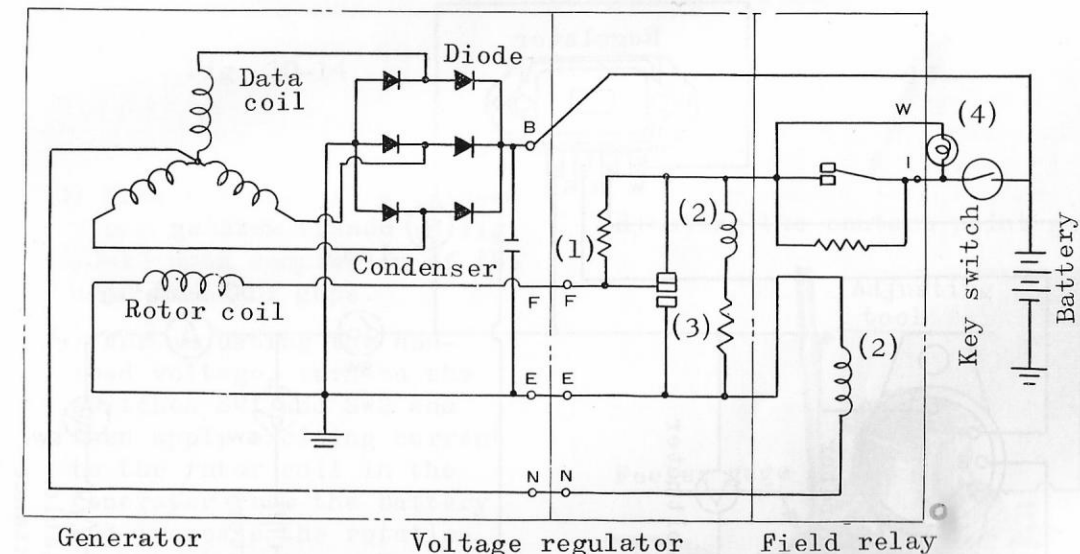
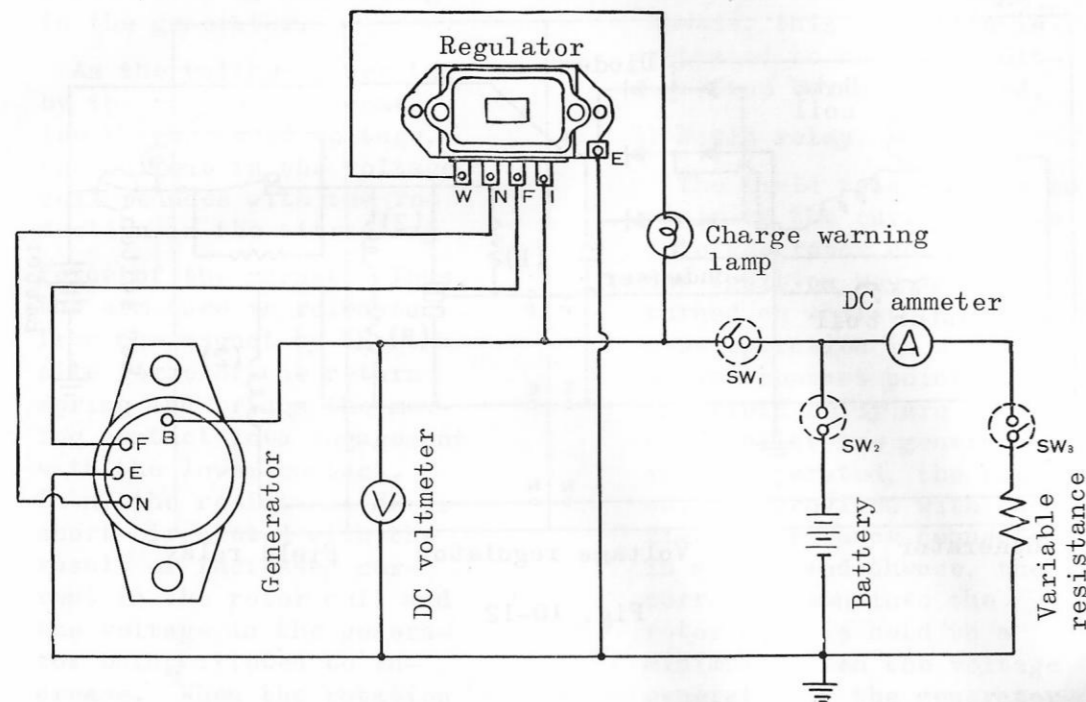

Fig. 10-12
Fig. 10-13
The internal connections of the generator, regulator and their associated parts are illustrated in Fig. 10-12 while the method of connection for adjustment is illustrated in Fig. 10-13. All the terminals should be tightly fastened to their corresponding leads noting their marks.
- 3) Make the necessary connections as illustrated in Fig. 10-13 upon completion of the adjustment of gaps.